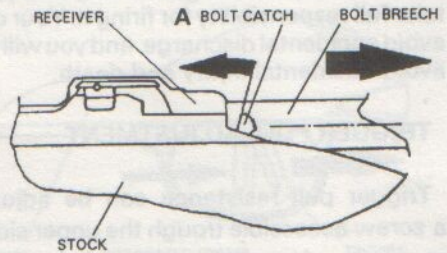

FIGURE 4
5. Depress bolt stop (see Fig.4, pos. A) and remove bolt by moving it rearward. 6.
2. Press bolt stop (see Fig. 4, pos. A) and pull the bolt rearward out of the receiver. This procedure readies the firearm for cleaning of the barrel and basic maintenance.
- b) press disassembly catch at the left rear of the bolt (Fig. 4., pos.B), keep it pressed and at the same time continue to open the bolt
- c) press bolt stop (Fig.4, pos. A) and pull the bolt rearward out of the receiver